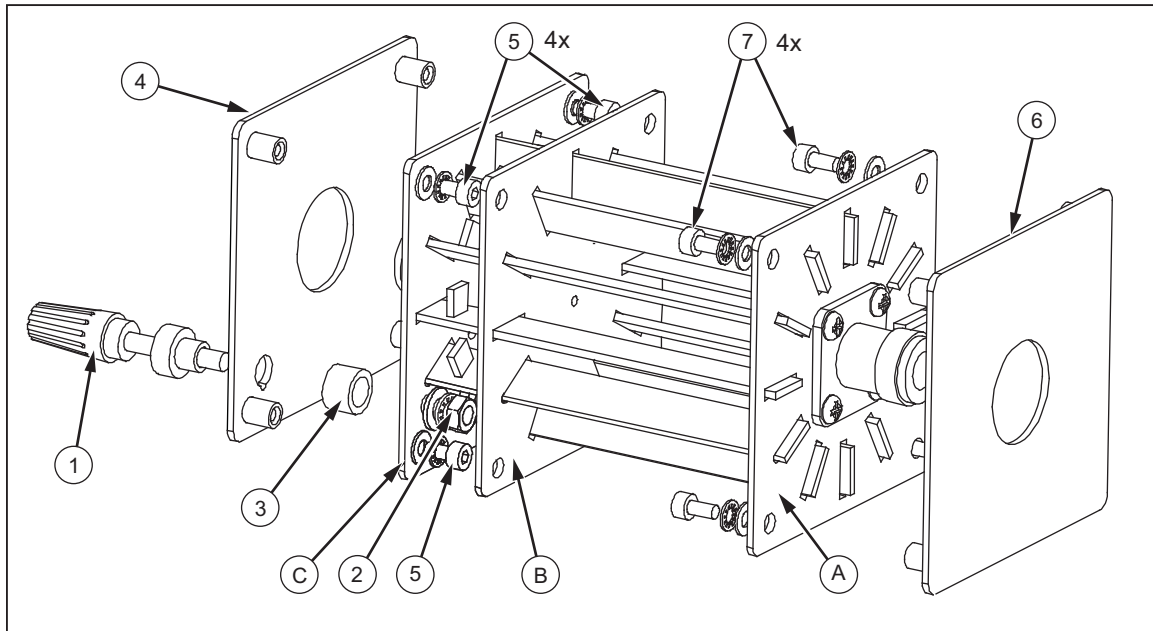

Figure 11. Exploded View of a Shunt
Use the following procedure to replace the binding post and the Aluminum end plates; see Figure 11.
1. Remove the input end plate (Figure 11- ⑥).
2. Remove the 3 mm screws, nuts and washers shown in Figure 11.
1. Remove the output end plate (Figure 11- (4)).